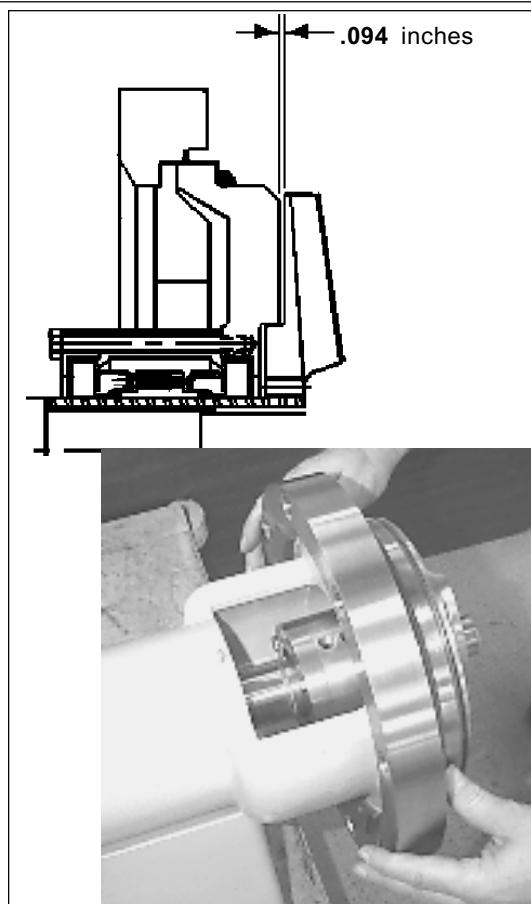

Figure 29
7. Place impeller/backplate assembly onto shaft. Push impeller against backplate. Pull backplate forward and move impeller out to approximately .094". (Figure 29) Tighten set screws in the spring retainer through port in flush housing. Rotate impeller to each of the four setscrews and tighten them securely. Insert plug in port and tighten. See Figure 30)